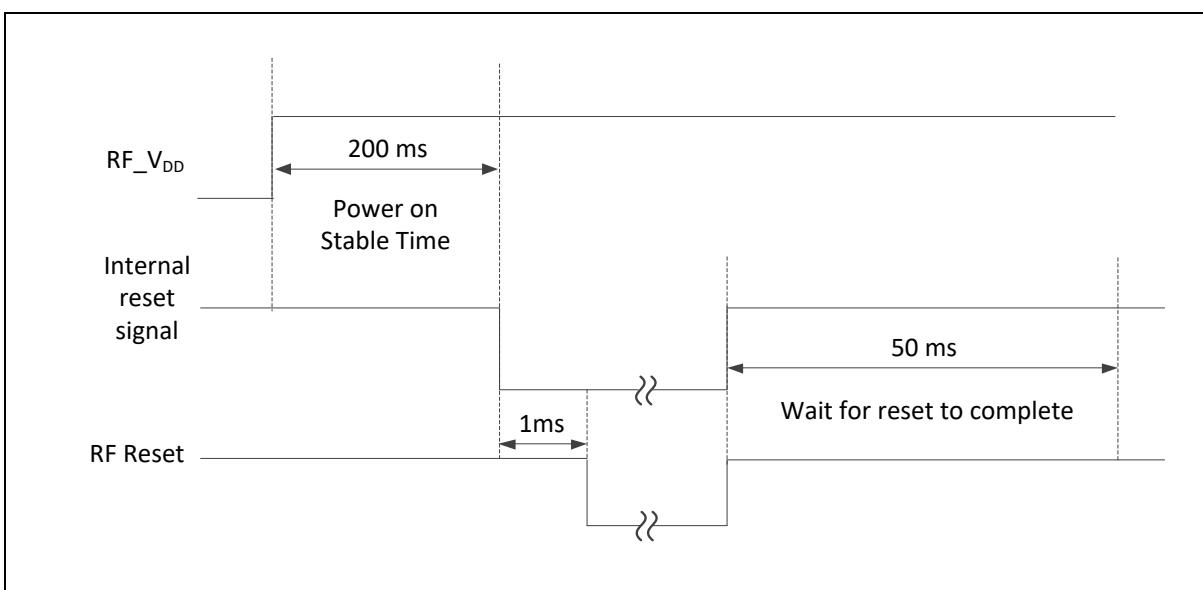

Figure 6.26-3 RF Transceiver Reset Waveform
- When the internal reset signal is set to low level and the status continues for more than 1 ms, the RF transceiver will reset. The internal reset signal will control the RF transceiver in the reset state until the internal reset signal is set to high level. And need to wait another 50ms to complete the reset. Figure 6.26-3 shows the RF reset waveform.